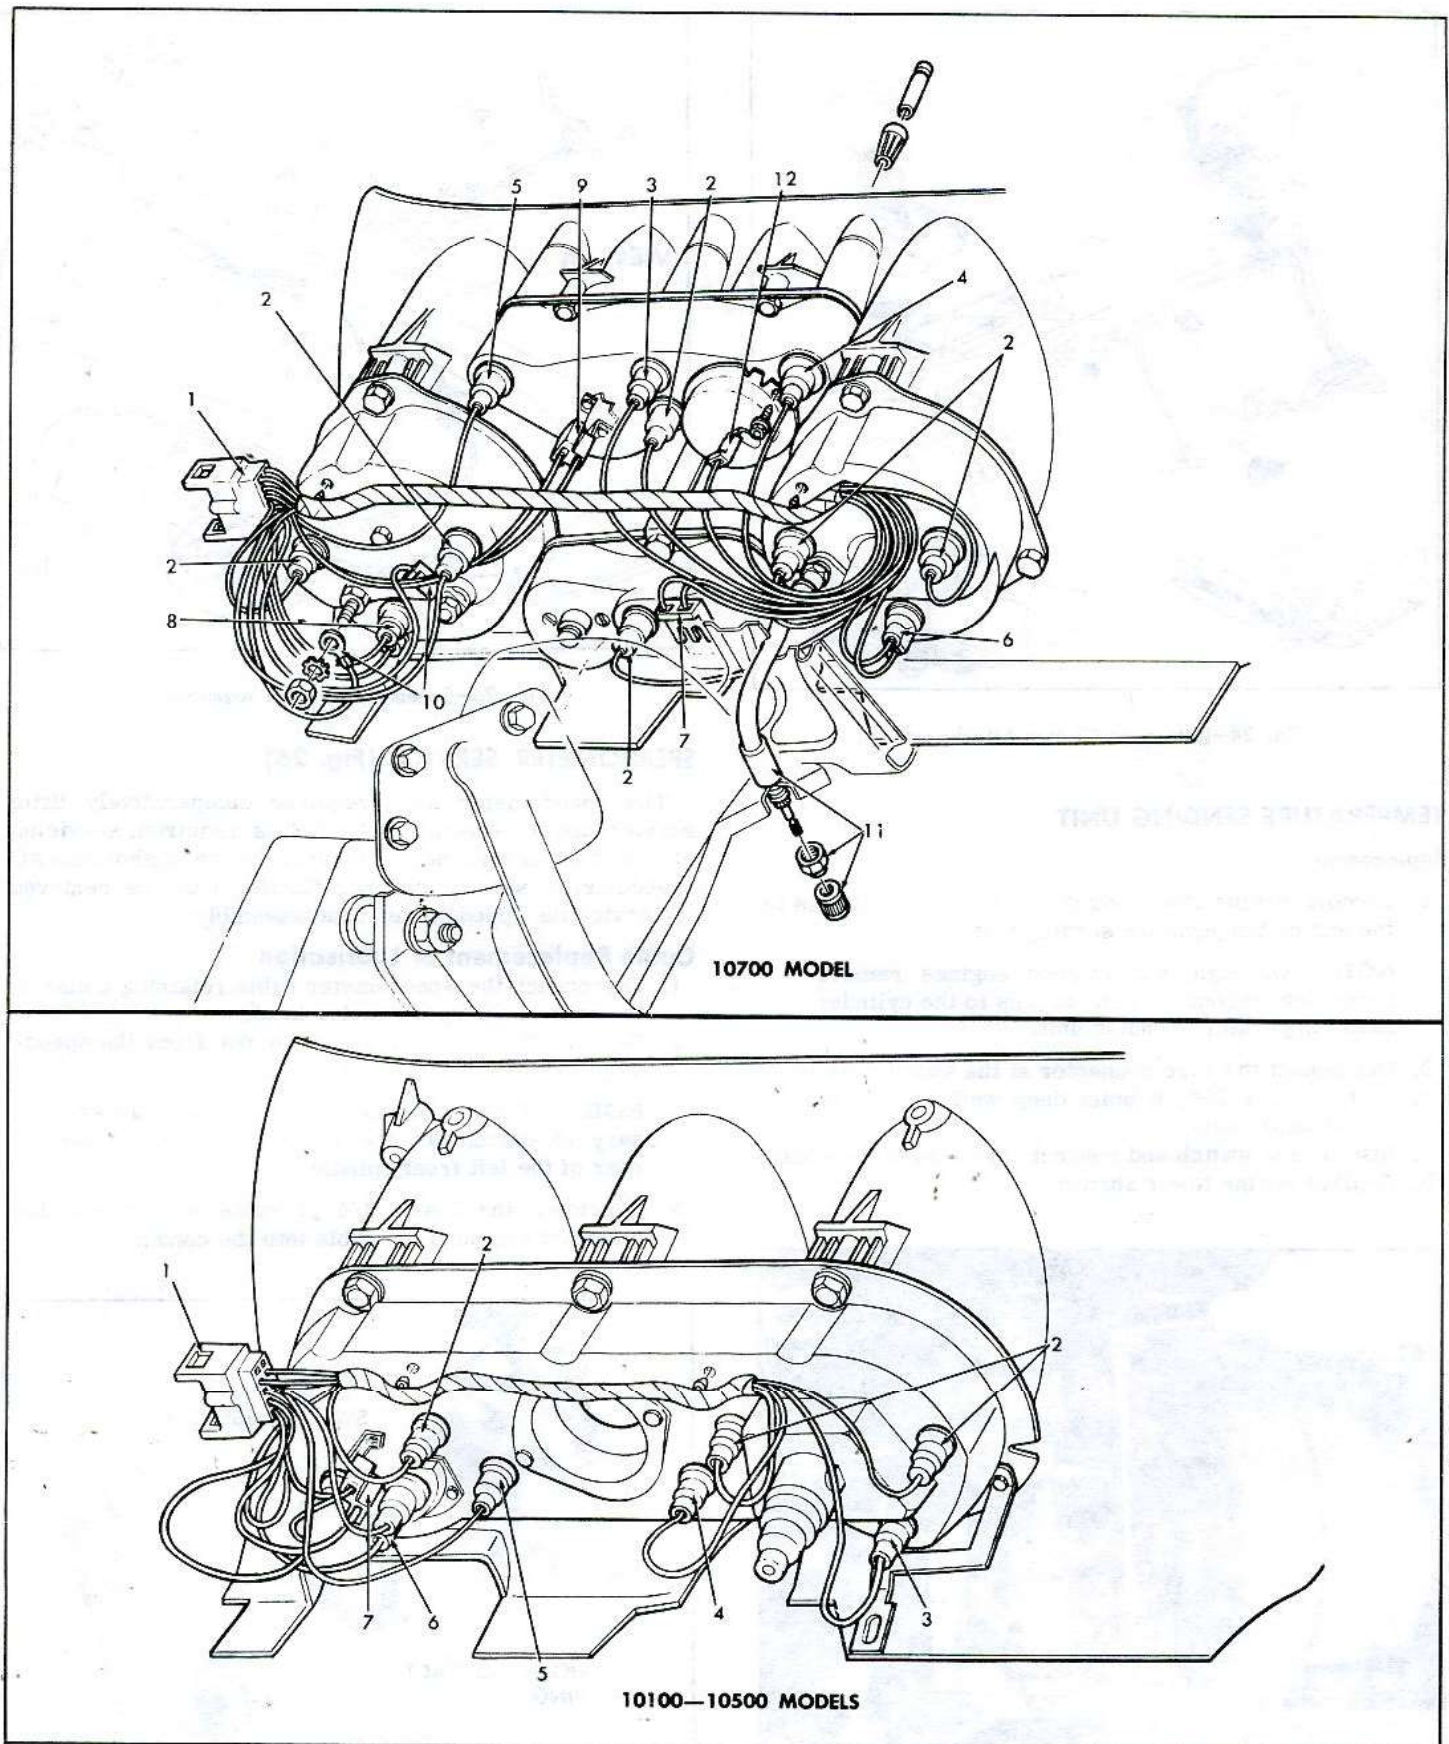

Fig. 23—Instrument Cluster Assemblies
All Corvair instrument, gauges or indicators are located in the console mounted instrument cluster (fig. 23). The entire cluster must be removed to permit servicing of the various instruments and gauges.
REMOVAL (Fig. 23)
7. Pull instrument cluster assembly forward from console and disconnect cluster wiring harness from panel wiring harness at multiple disconnect (fig. 23).
2. Connect cluster wiring harness to instrument panel wiring harness (fig. 23).